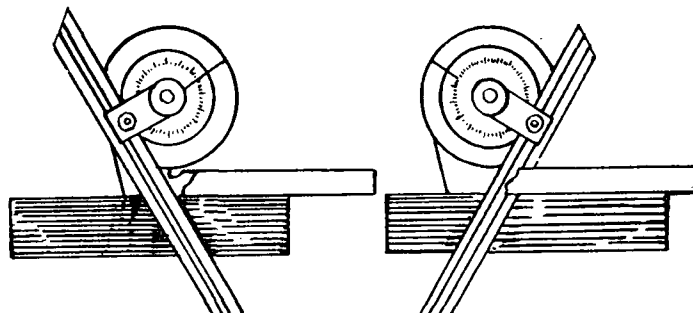

Fig. 4
2. Draw diagonal lines in the same manner, using the combination set (Fig. 4).